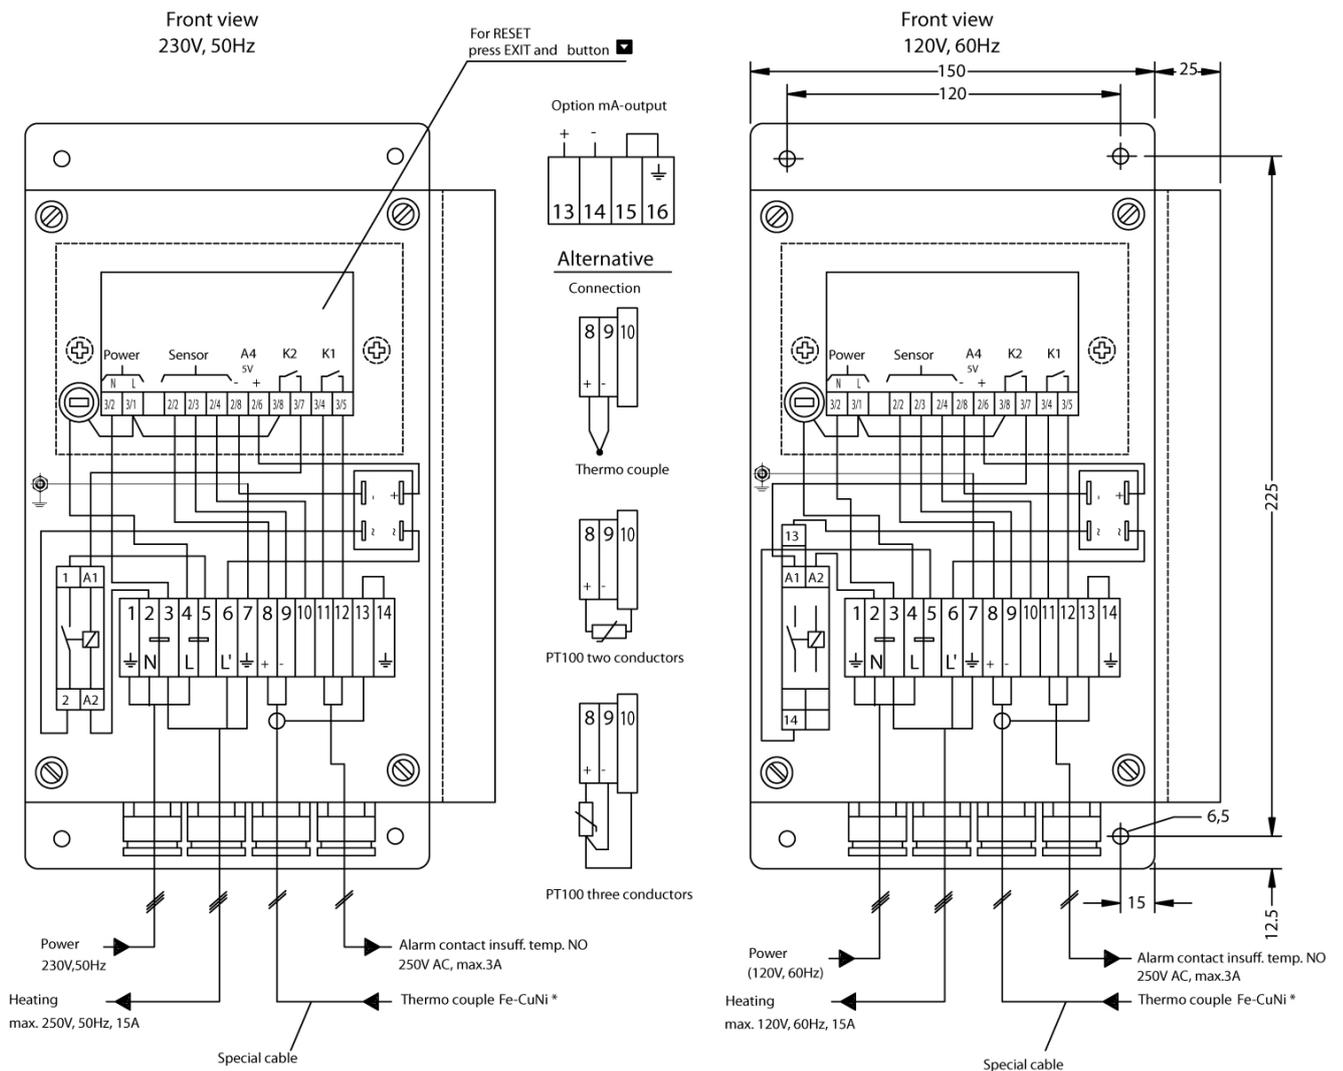

Figure 3 Electrical wiring plan
Electrical connection can take place after removal of the front cover as shown in the diagram below on the internal terminal strip. The cover can be removed by loosening the four screws visible on the front cover. Provided on the underside of the housing are four PG 13.5 glands through which the cables can be inserted as shown in Figure 3. Figure 3 shows the electrical wiring diagram for the controller type **70304G**.
Connection of the temperature sensor depends on the type of sensor used and varies for Pt100 or thermocouple (see Figure 3). For connection purposes, a shielded cable must be used. For a thermocouple, an appropriate compensating cable conforming to DIN 43714 must additionally be used.
For self-optimizing of the control circuit, the heating of the respective M&C component must be reconnected to the appropriate controller terminals (see Figure 3).
- After cable connection (Figure 3), switch on the supply.